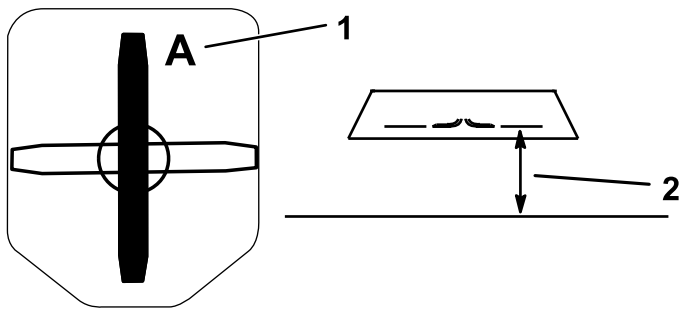

Figure 37
2. Measure from a level surface to the cutting edge, position **A**, of the blade (Figure 37).